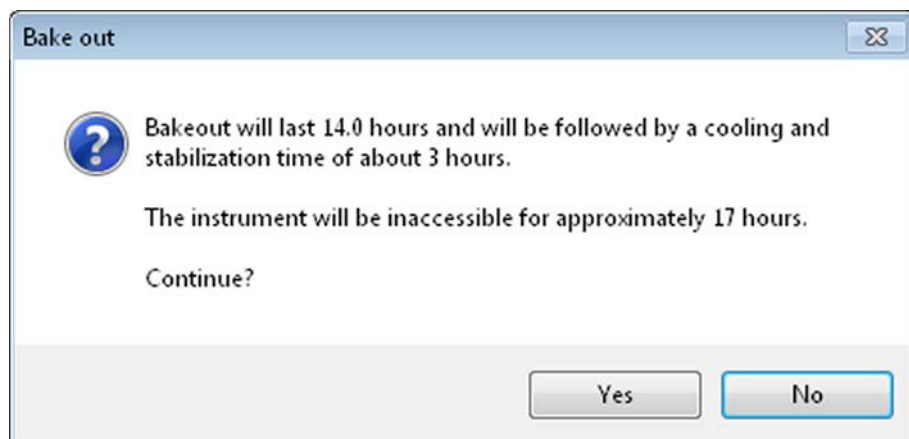

Figure 5-9. Bakeout message box
- Click **Bake out**. A dialog box shows the duration of the baking procedure. See Figure 5-9. Click **Yes** to confirm the message.